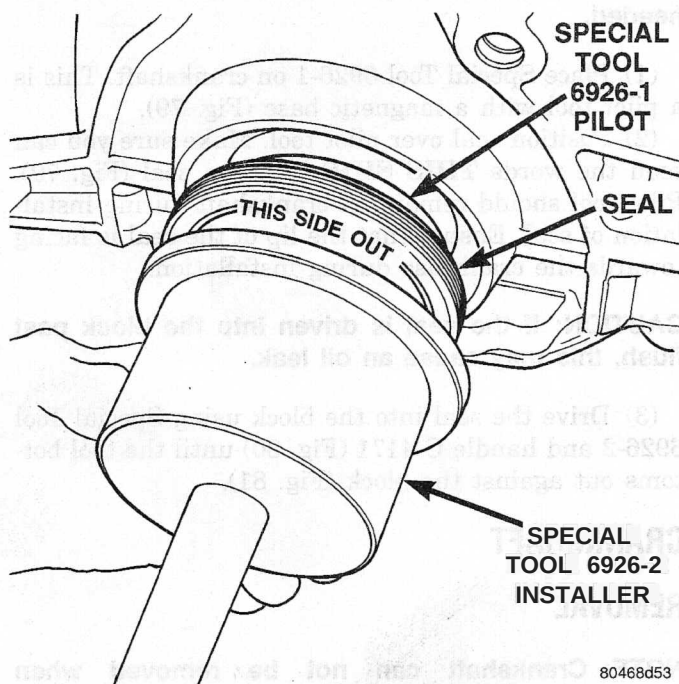
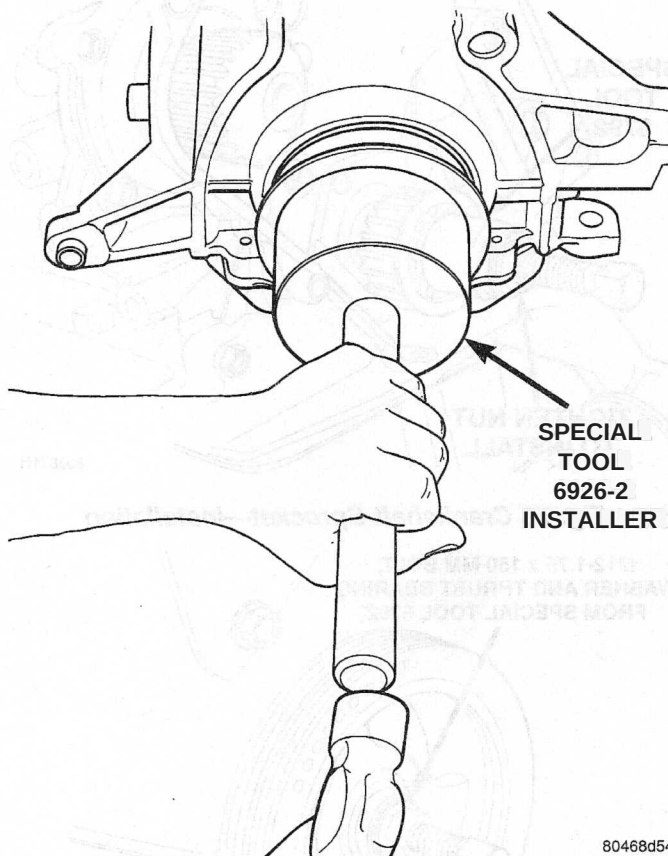

Fig. 80 Crankshaft Seal Special Tool 6926-2
Fig. 81 Rear Crankshaft Seal-Installation
(3) Drive the seal into the block using Special Tool 6926-2 and handle C-4171 (Fig. 80) until the tool bottoms out against the block (Fig. 81).